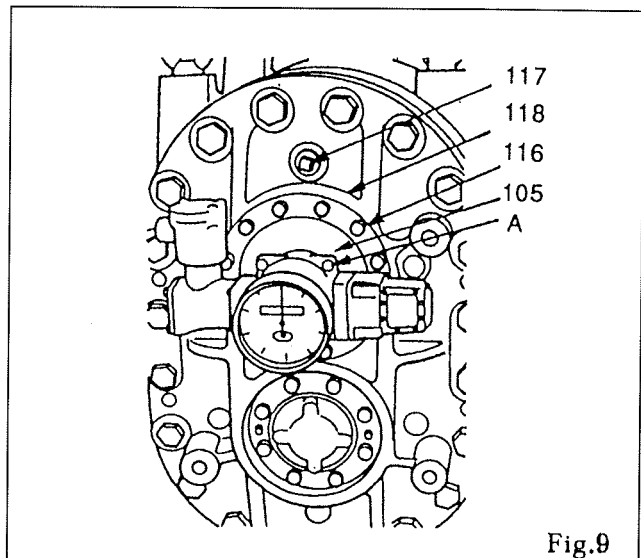

Fig.9
③ Separate the register assembly and transmission gear box. To do this, take off four bolts (A) with hex wrench key and, holding the register assembly, separate it horizontally.
④ Remove the flowmeter body from the piping assembly.
⑤ Of the eight bolts (116) on the three blind covers (104), leave two semifixed and take off the remaining six (Fig. 9).